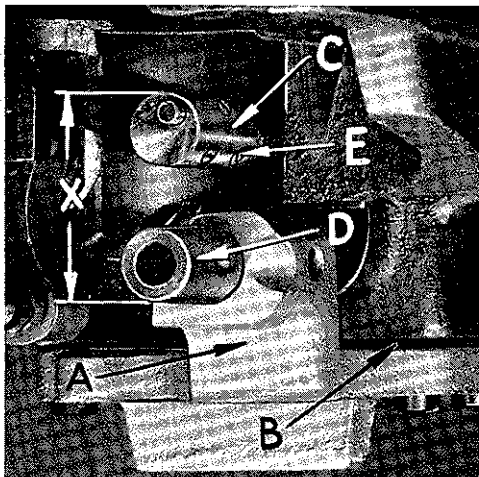

Fig. 16
At this time, the point of the sewing hook (B) should be even with the centerline of the eye needle on the 100 P and 100 NTN machines, centered between the eye needle and the hook needle on the 100 S machine and 1/16 inch past the eye needle in its direction of travel on the 100 LS machine. The above adjustment may be made by loosening the three screws (E, Fig. 16) in the hook driving barrel and rotating the barrel until the above condition is satisfied.
This is done by loosening the Allen screw located in the lower bracket. Move the sewing hook shaft bushing (D, Fig. 16) either to the left or right to locate the sewing hook properly. Re-tighten the Allen screw.
Should it become necessary to replace either the hook carrier bracket (A, Fig. 16) or the shim gasket (B) for it, it is extremely important that the proper distance between the hook barrel (C) and hook carrier bushing (D) be maintained. Use a micrometer to check this dimension as shown at "X" in Fig. 16. On Styles 100 P, 100 S, and 100 NTN, this dimension is 1.375 inch plus .005 inch and on Style 100 LS, it is 1.400 inch plus .005 inch.